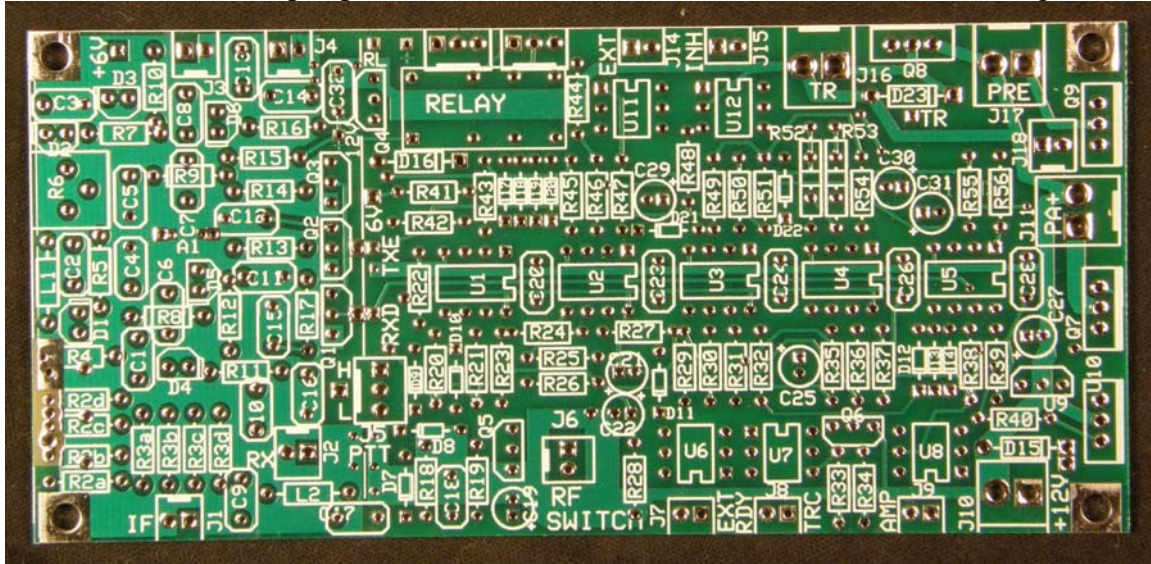
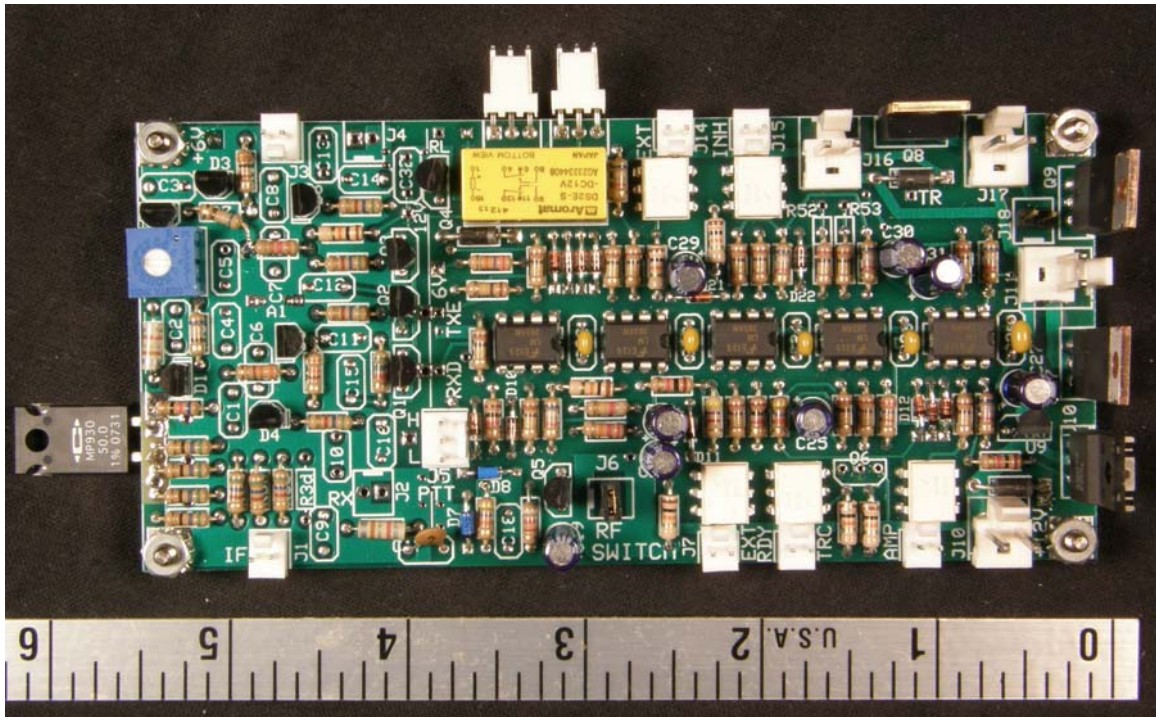
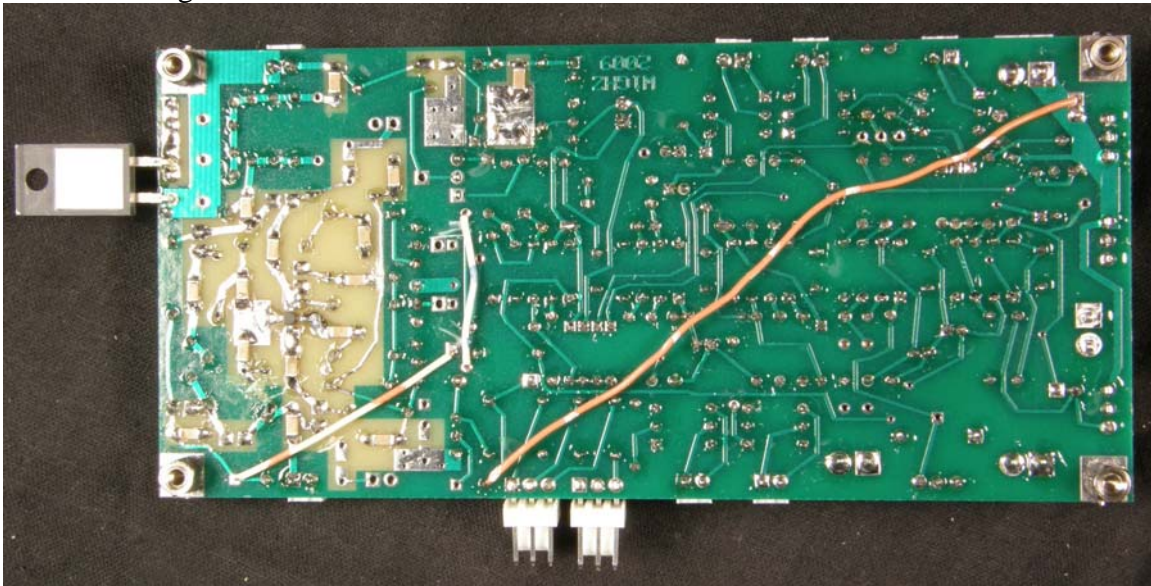
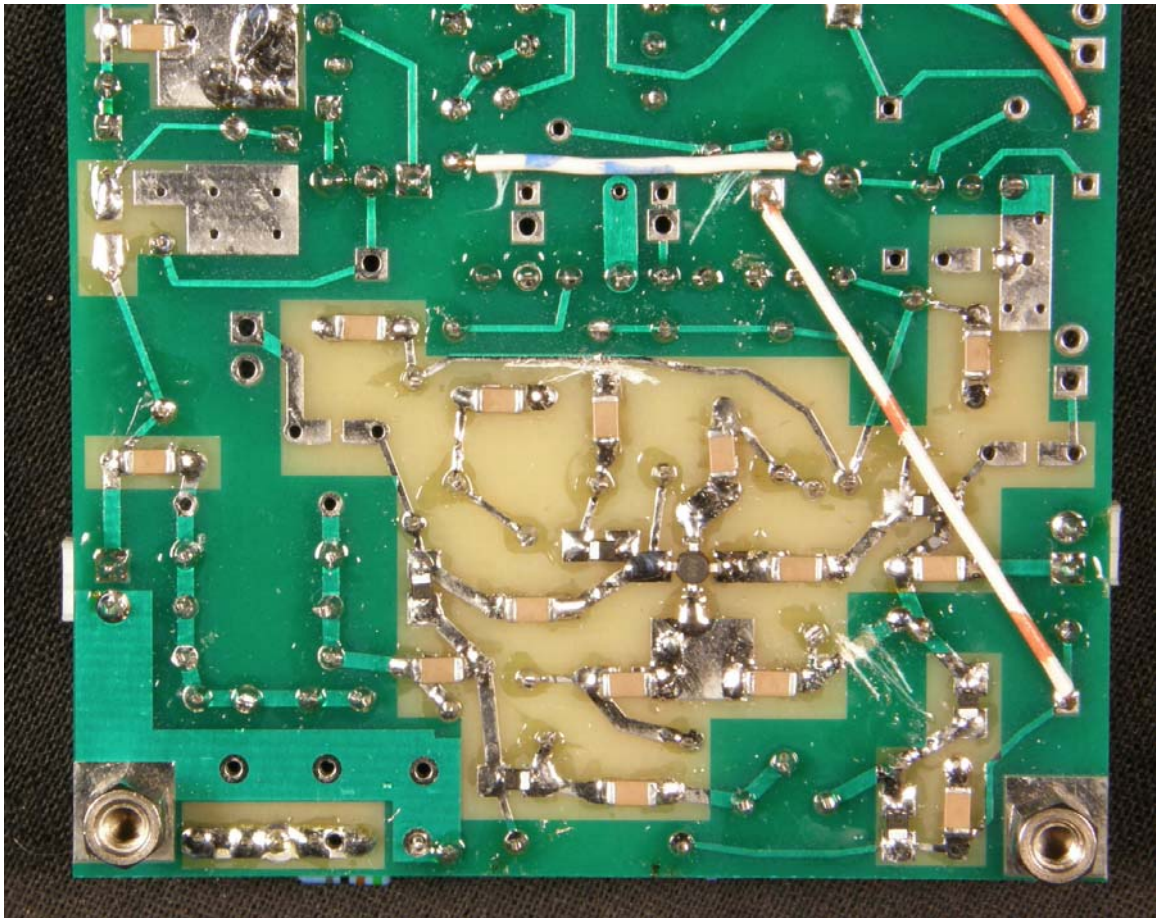

Figure 3 - PC board
Figure 4 - Assembled Sequencer
Figure 5 – Bottom of board showing additional wiring
Figure 6 - Bottom of PIN switch area, showing caps and PIN diodes, and cut traces for errata
6. **Remote PIN switch** – the PC board is arranged with the PIN switch at one end (left in Figure 3 and 4) and the control circuitry on the rest of the board, with enough separation so that they may be cut apart and used for remote operation, at least over a short distance like different parts of a cabinet. There is a silk-screen line across the board indicating where to cut. Then a few wires are needed to make the needed connections: **RXD**, **TXE**, **+12V**, **+6V**, and possibly **PTT**, if it is coming up the IF coax.
The printed circuit board layout was planned with a regular pattern which can be seen in Figure 3, and a photo of an assembled sequencer is shown in Figure 4. The sequencer ICs and associated components run down the middle of the board, with all inputs on the lower side and outputs on the top and right sides. The IF interface and PIN diode switch is at the left end; like all RF circuitry, lengths are kept short so layout is less regular in this area. A photo of the bottom of the board is shown in Figure 5, and a closeup of the PIN diode switch, with chip capacitors and surface-mount PIN diodes, is shown in Figure 6.